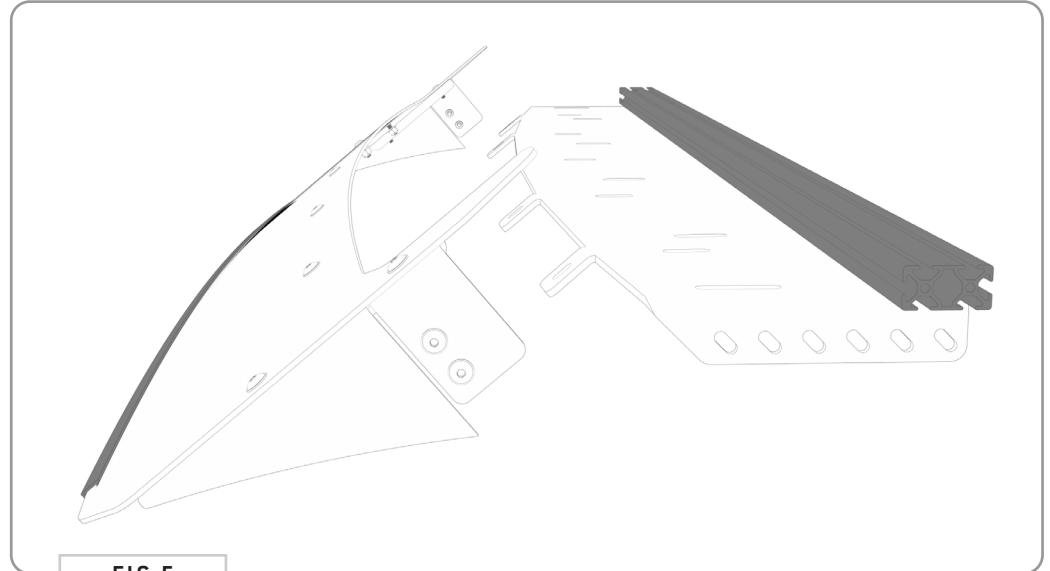

FIG 5
1.5 Attach Front Fairing: Attach the Front Fairing to the Assembly using 1/4-20 x 0.75 Flanged Button Head Screws, Flat Washers and Nylon Locknuts (FIG 5+6).